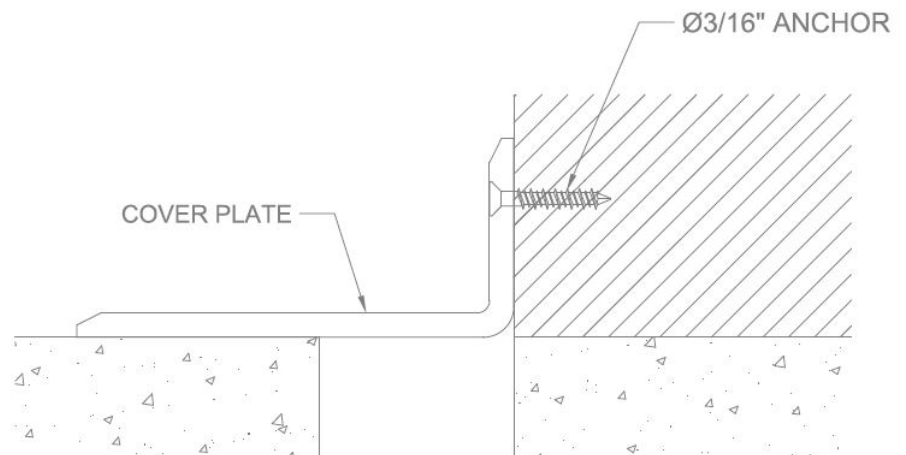

Figure 2
3. Attach the cover plate to the wall using appropriate  $\text{Ø}3/16$ " fastener for the wall type. Note: Wall fasteners are not provided. **See Figure 2**